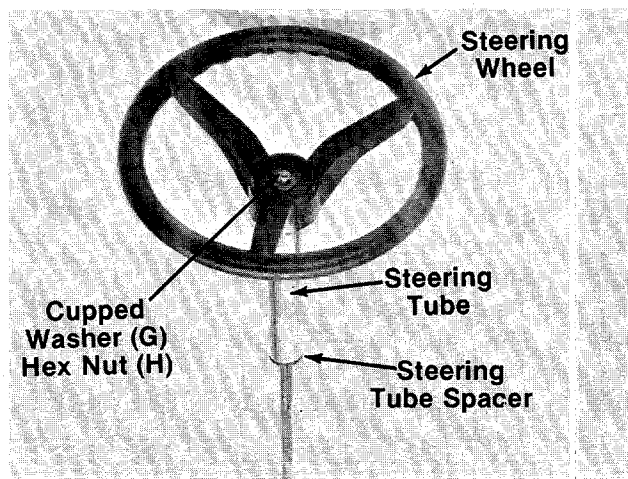

FIGURE 6.—Style A Shown
4. **Style A only**—With the **steering shaft** in the normal upright position (end with flattened portions up), slide the **steering tube spacer** and **steering tube** down over the **shaft**. See figure 6.
5. Place **steering wheel (AC)** over the end of the **steering shaft**, lining up the flattened portions of the steering shaft with the flattened portions of the steering wheel. Make certain steering wheel is seated over the end of the steering tube.
6. Place **cupped washer (G)** over the **steering shaft**, with the cupped side of the washer against the steering wheel. Secure with **hex nut (H)** (5/16" I.D.). See figure 6. Tighten securely.